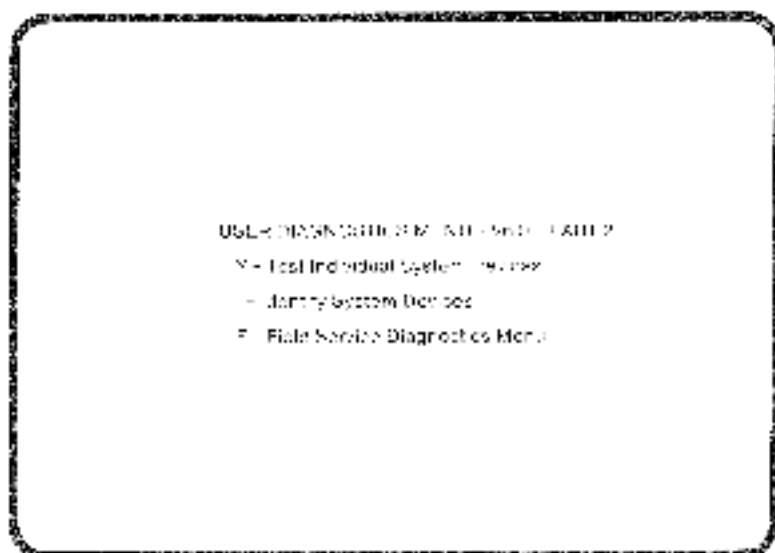

Figure 4.3 User Test Diagnostic Menu, Part 2
- The system displays the User Diagnostics Menu, part 2 (Figure 4-3).